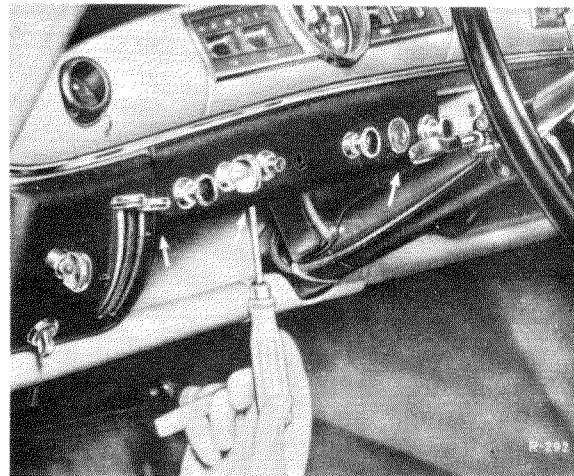

Fig. 68—1/2
5. Unscrew the 3 fixing screws for the mounting plate (see Fig. 68—1/1 and arrows in Fig. 68—1/2).